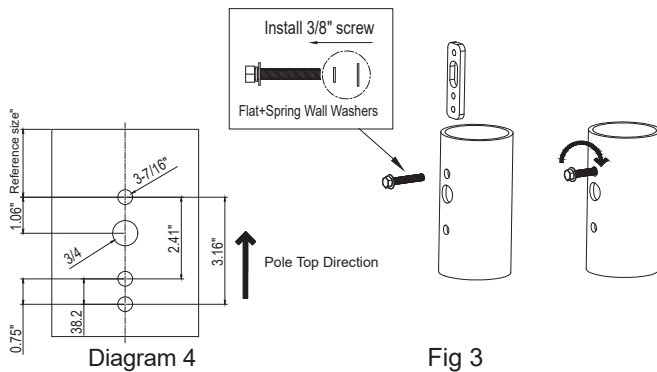

Fig 3
• Install Mounting Screws(Fig 3)